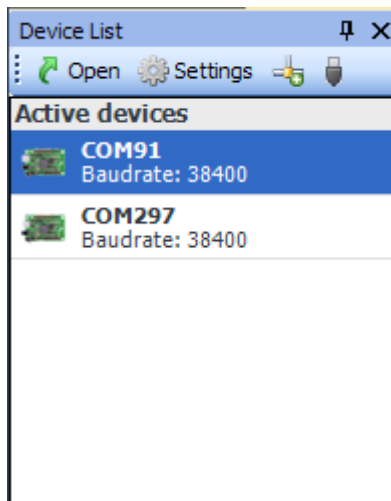

Figure 2-6. Command Console Device List Panel
6. A virtual COM port is created every time a USB-connected device is inserted and it acts similar to any normal COM port. It appears in the Command Console Device List (Figure 2-6), which enables users to track the newly created ports and make configuration options.